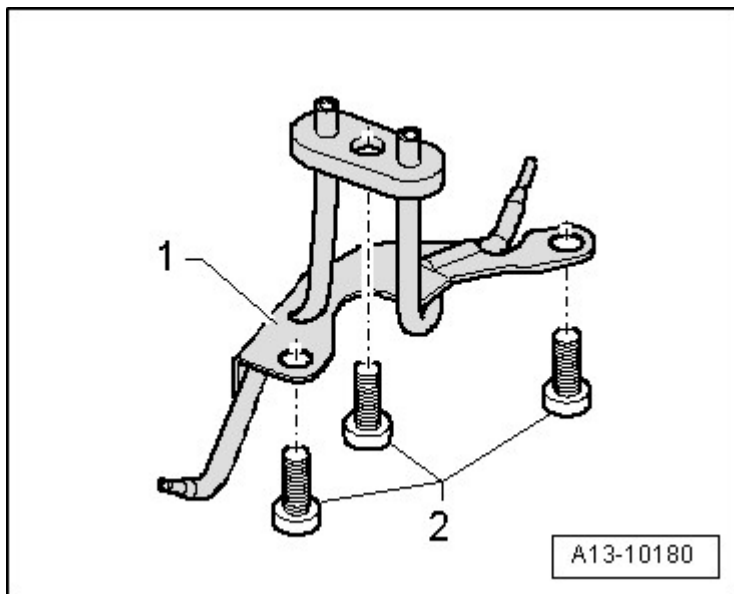

Fig. 15: Identifying Oil Spray Jet For Piston Cooling
- Oil injector jet for piston cooling, refer to **Fig. 15**.